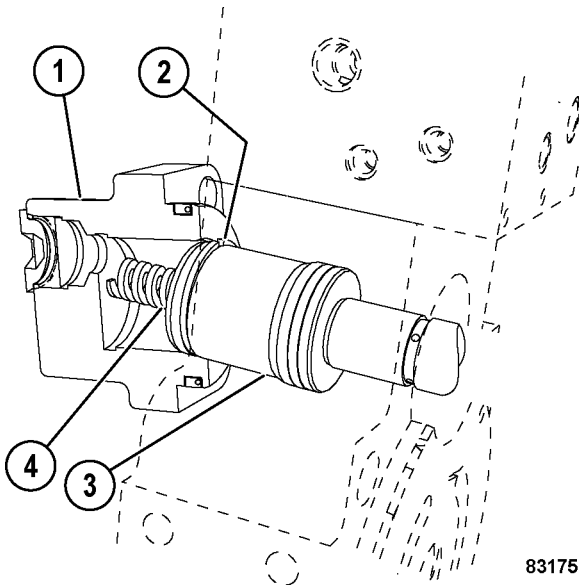

FIGURE 6-16. SEAL INSTALLATION
7. Fold the bladder and pull it out of the accumulator shell. A slight twisting motion while pulling on the bladder reduces the effort required (Figure 6-16). If the bladder is slippery, hold it with a cloth.